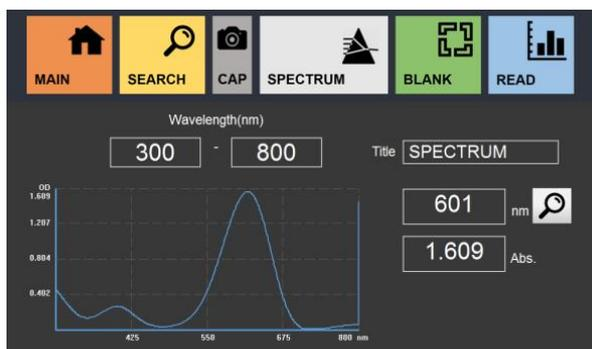

Fig. 3-17
1. Select the Spectrum measurement interface (Fig. 3-17).